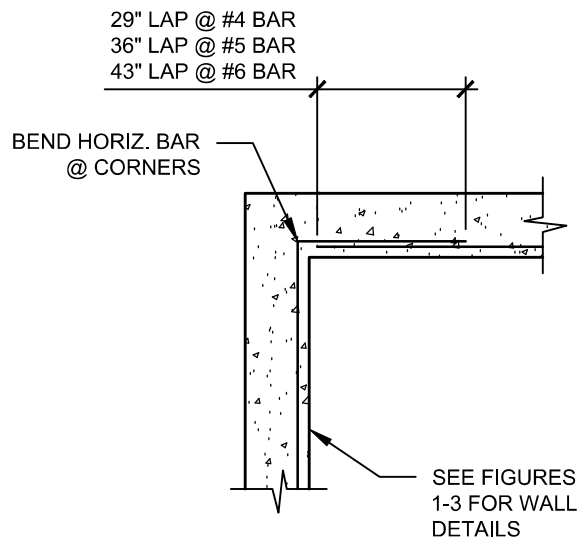

FIGURE 4A: TYP. CONC. WALL CORNER
9. Refer to Figure 4A for reinforcing at wall corners.
7. Refer to Figure 4A for reinforcing at wall corners.